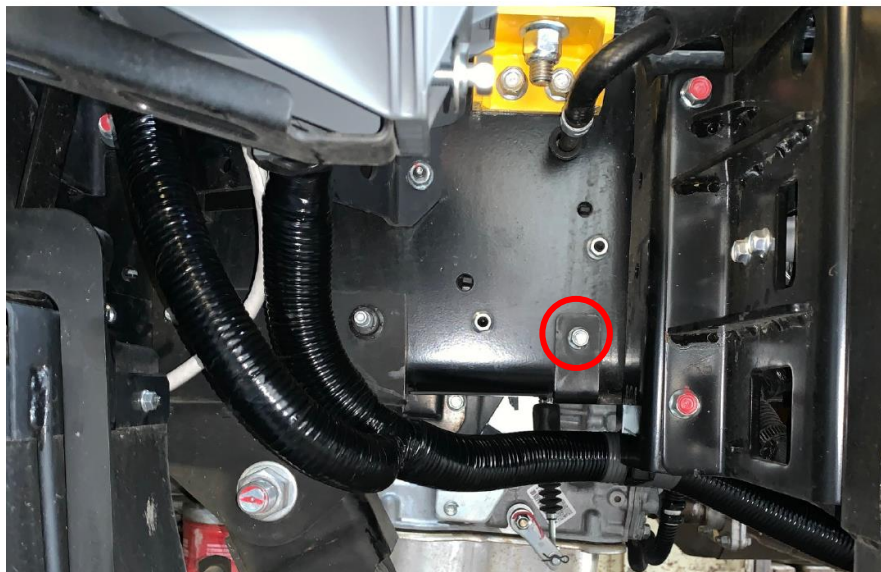

Figure 3
5. Remove the bolt and nut holding the forward tab of the wiring harness bracket as shown in Figure 3. Discard the bolt and nut just removed.